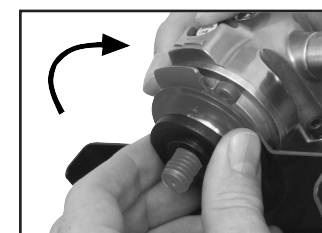

Fig. 4
3. Remove the outer flange nut and ensure that the inner flange is screwed-up hand-tight against the head of the Angle Grinder (See fig. 4).